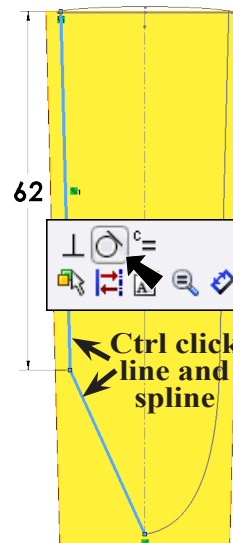

Fig. 48
Step 13. **Ctrl click line and spline** to select both spline and line, **release Ctrl key and click Make Tangent**  on the Content menu, **Fig. 48.**